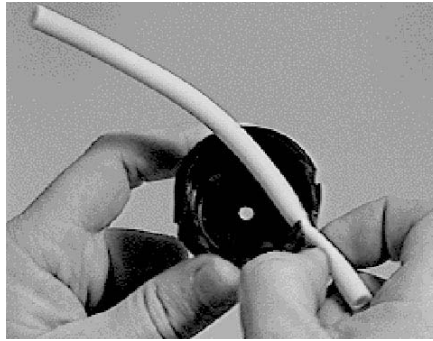

Fig. B-2
- 9: Reverse or flip the tubing end-to-end and reinstall by pinching it one inch from an end and inserting it into the outlet port of the pump body. Position the tubing so that an un-worn side will be against the rollers. See Fig. B-2.